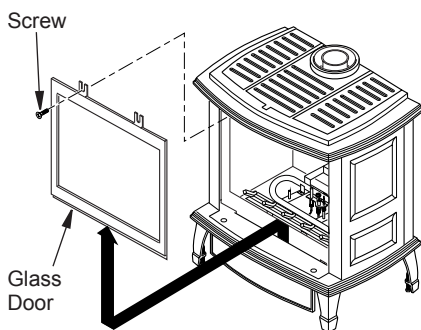

Figure 36 - Removing Glass Door from Burner System
2. Remove screws from 2 tabs at top of glass door while holding door securely keeping it from falling forward (see Figure 36).
3. Grasp door by both sides and ease it upward off of lower bracket (see Figure 36).